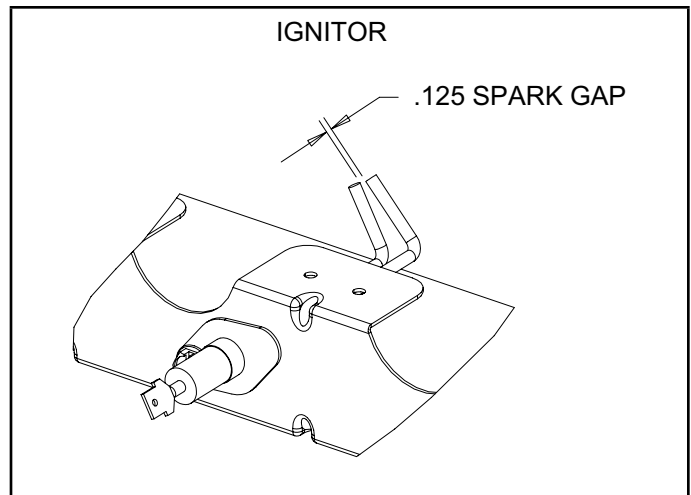

FIGURE 11
- 9 - Locate the ignitor. Check ignitor spark gap with appropriately sized twist drills or feeler gauges. See FIGURE 11.